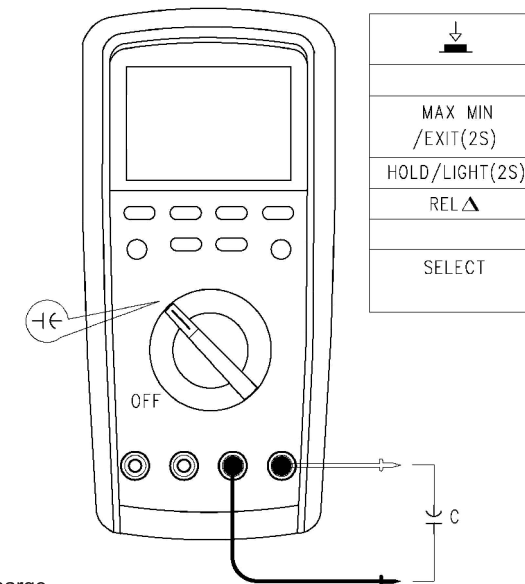

Figure 7
**5. Measuring of capacitance (see Figure 7)**